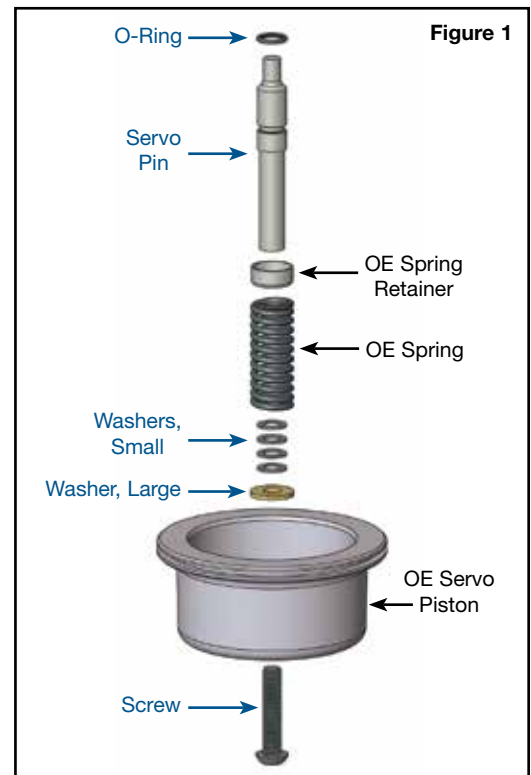

Figure 1
- Keep servo piston, spring, and spring retainer cup for reuse while discarding the rest (**Figure 1**).